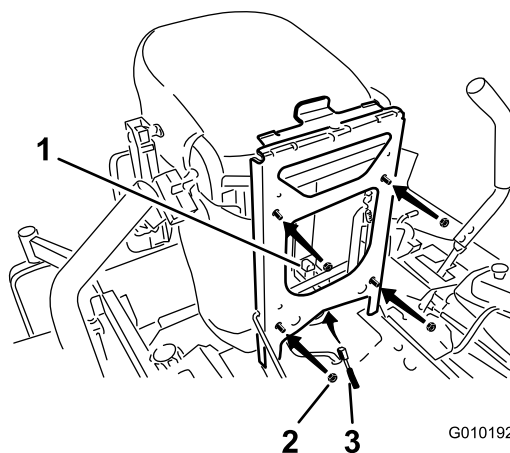

Figure 15
3. Install the seat to the seat frame with 4 flange nuts (3/8 inch) as shown in Figure 15.